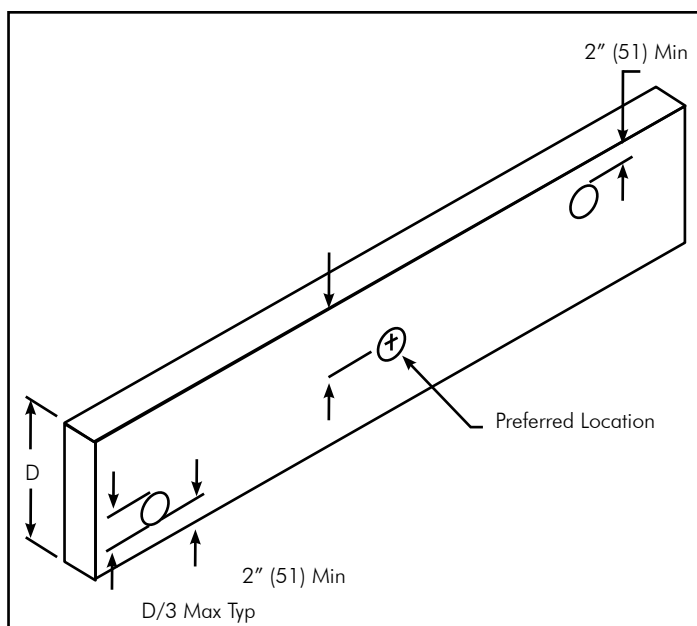

FIG. 4-7 Holes in Wood Joists
- Where a hole is to be bored in a joist, the hole should be located at the centerline, otherwise no closer than 2" (51mm) from the nearest edge of the joist, and the hole diameter shall not exceed $\frac{1}{3}$ the depth of the joist (see **FIG. 4-7**).